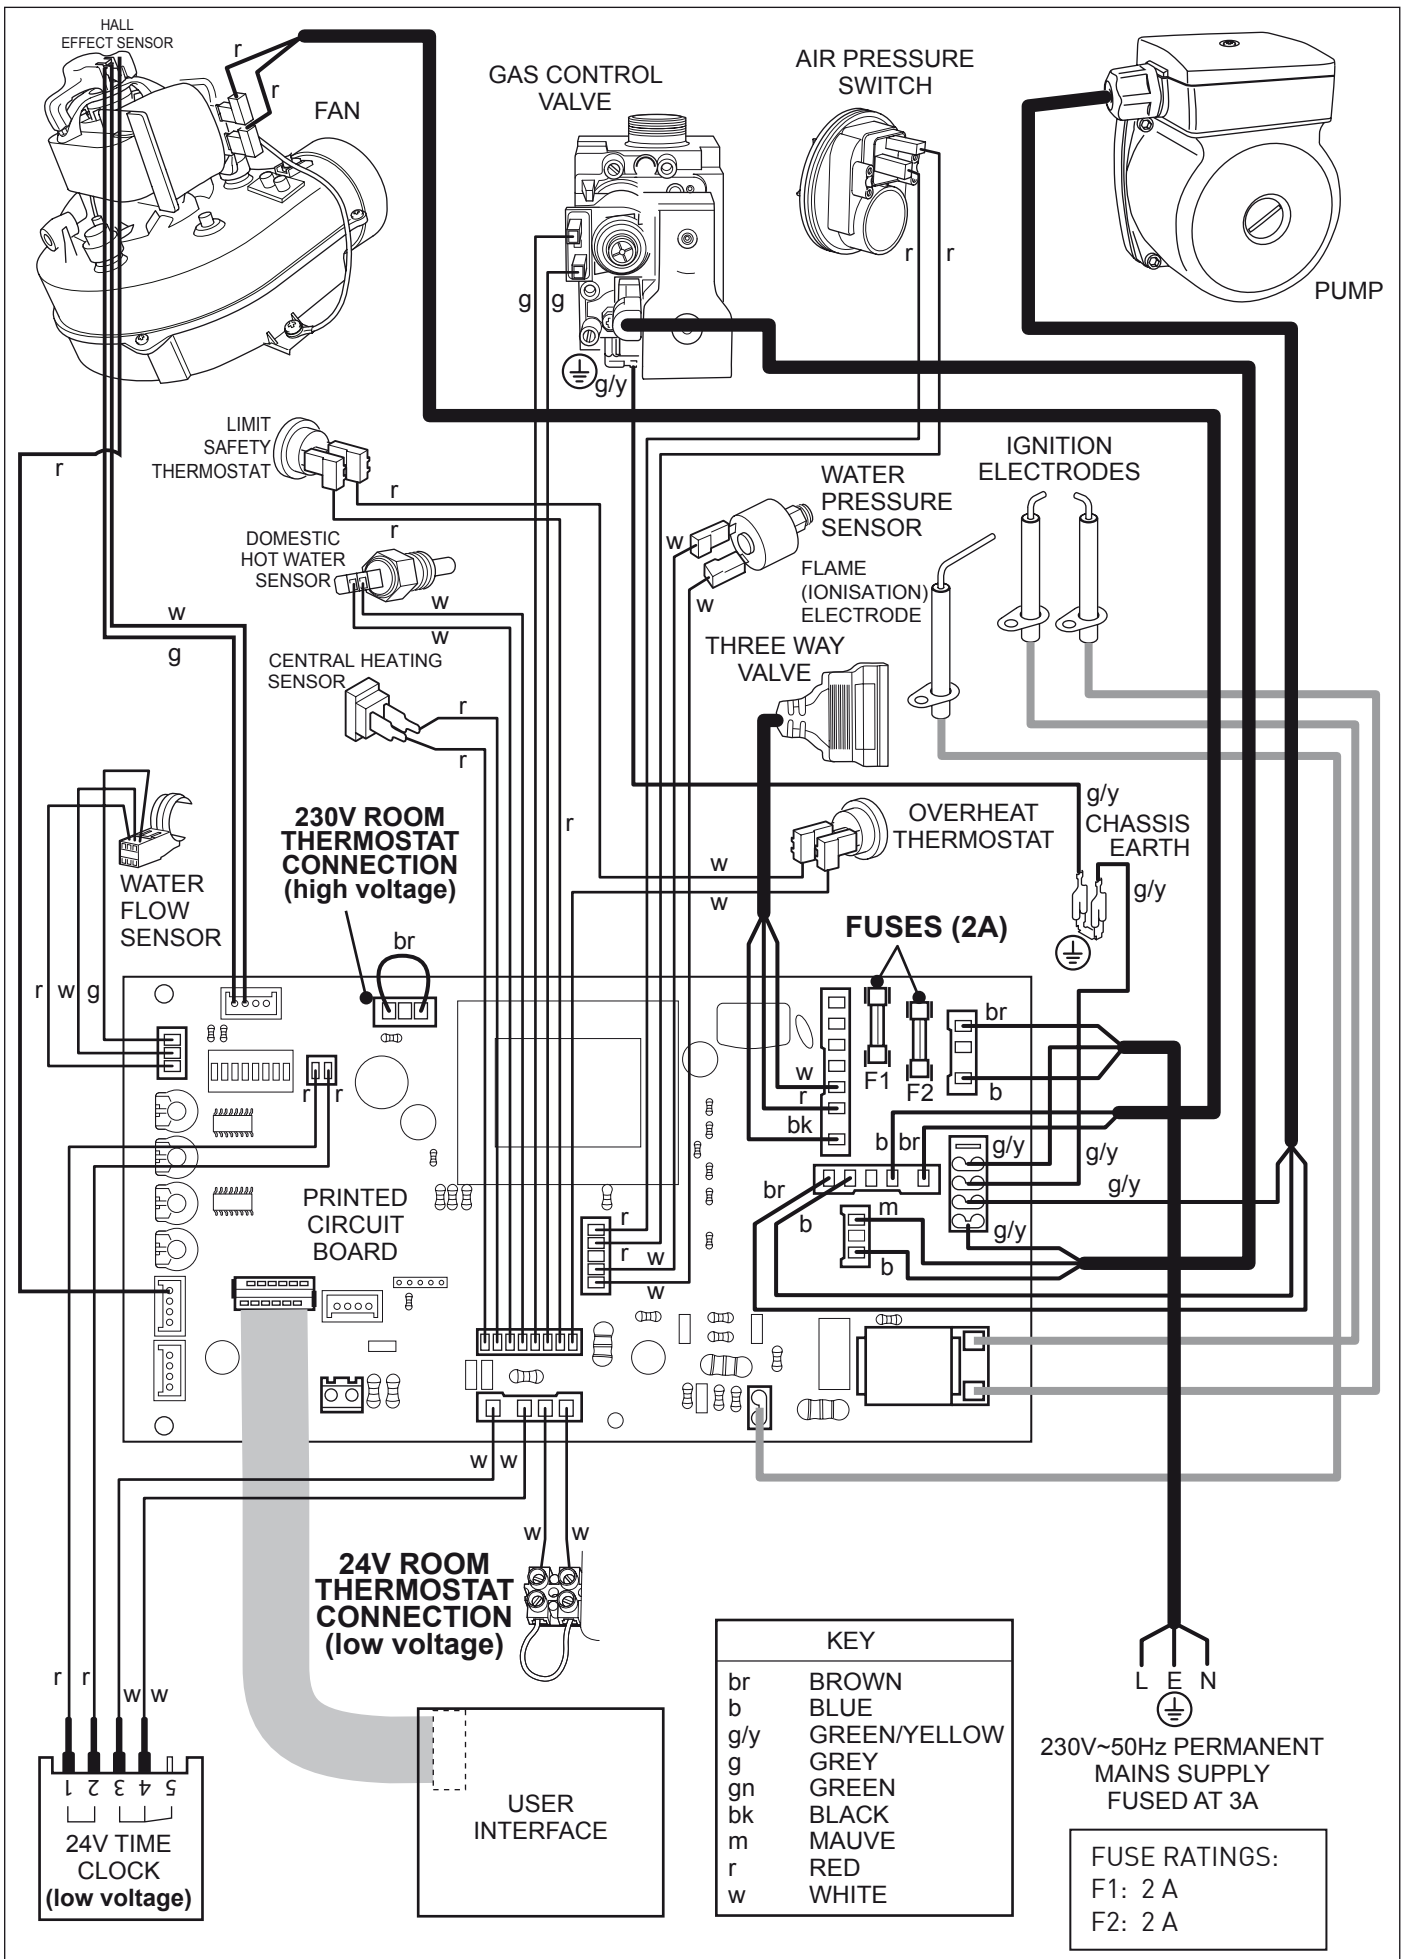

Figure 9
9.8 On connecting the mains electrical supply to the boiler, it is essential to ensure that electrical safety checks for earth continuity, earth resistance, polarity and short circuit are carried out prior to making the final connection. A diagram of the boiler's electrical circuit is given as *figure 9*.